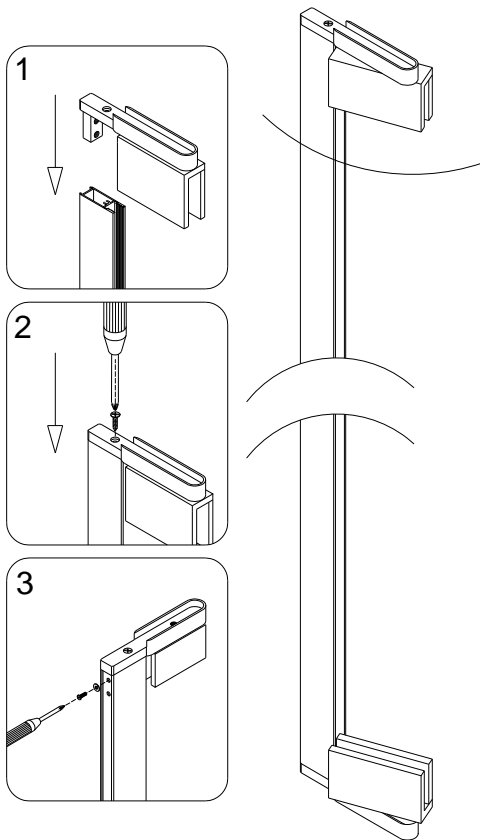

Fig 3
3. Locate the **Glass profile for glass door (2)**. Push the upper **Pivot assembly (7)** into the top groove of the **Glass profile for glass door (2)**; then secure it and the profile with **Flat head screws ST4.2×25 (16)** and **M4×16 bolt (13)**. Repeat the same steps for the bottom Pivot assembly. See Fig 3 for details.
NOTE: The **Back plate (K)** of the **Pivot assembly (7)** should face inside of your shower. Please note it on Fig 3.